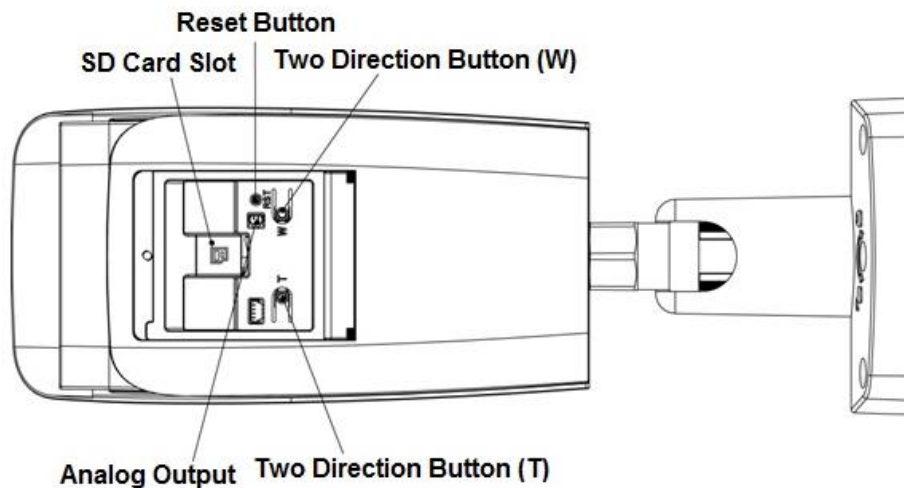

Figure 2-2
2. Insert the SD card into the slot which is shown in Figure 2-2, you can press the SD card slightly to insert it because the card slot is elastic.